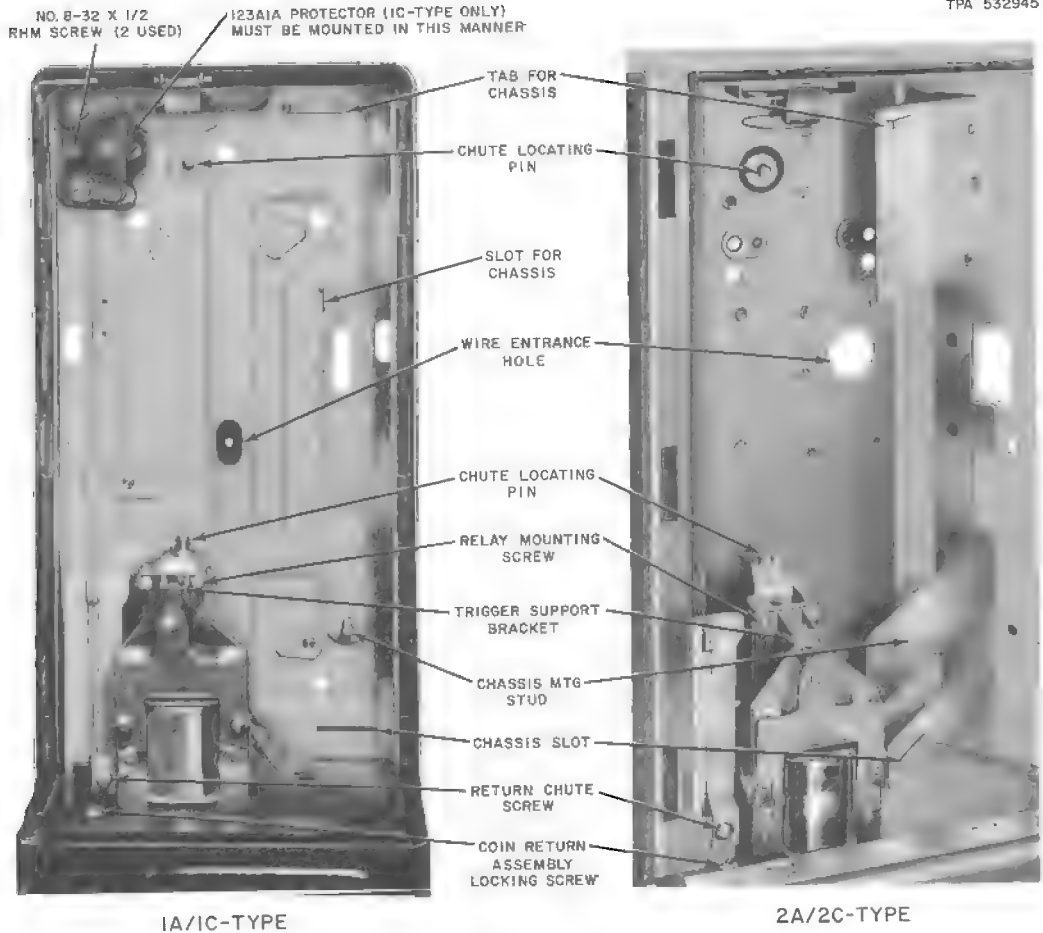

Fig. 11—Housing and Mounting Plate Assemblies
- (1) Place chute on locating pins at rear of hopper assembly, and back of housing (Fig. 11).
- (1) Slide chassis under tab (Fig. 11).
- (2) Seat chassis tabs in slots.
- (3) Tighten chassis mounting captive screw.
- (4) Replace (BK) and (Y) leads on coin relay after threading through hole in hopper. Connect (Y) lead to terminal G and (BK) lead to terminal 3 of coin relay.
- (b) Feed inside wire through wire entrance hole (Fig. 11) as set is mounted on backboard.